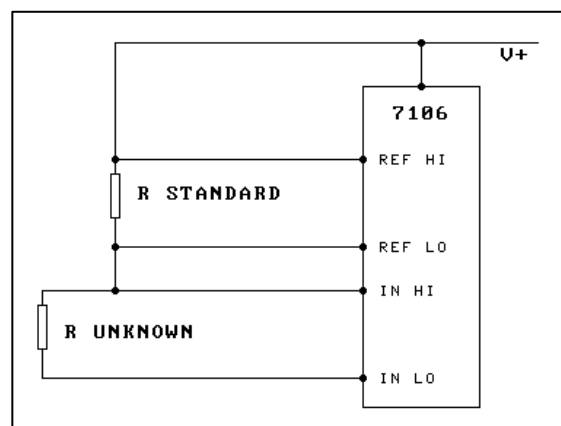

Figure 8. Measuring Resistance
**Resistance Measurement.** The kit is not specifically designed for this purpose, however, with some changes to the board this function can be carried out. The principle is shown in Fig. 8. The unknown resistance is put in series with a known resistance and a current is passed through the pair as shown. If they are of equal value the integration and de-integration ramps will be of equal slope and the display will read 1000. The maximum readable ratio is 1.999. Since a ratio is being measured the reference resistor need not be exact.